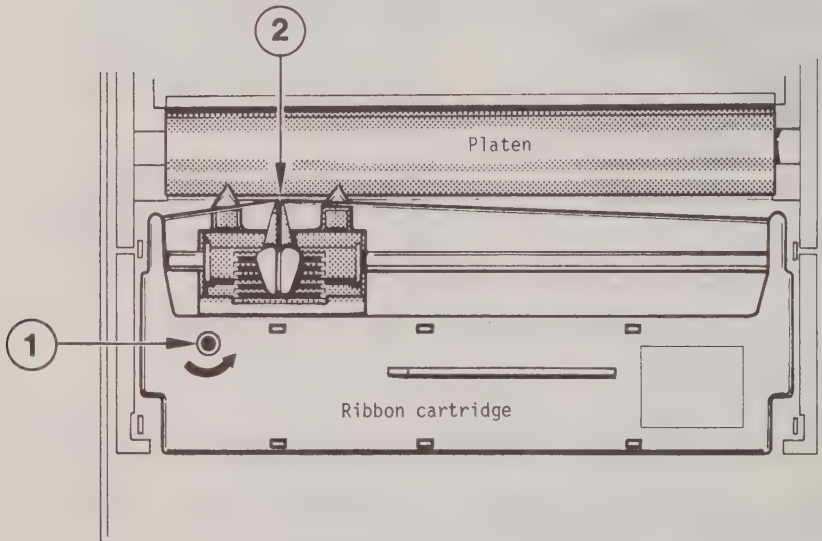

Fig. 5/16 Print head and ribbon cartridge viewed from above
- Push ribbon (2) between needle print head and platen with, for instance, a pencil. Ensure that the ribbon is not located in front of the paper deflectors (see Fig. 5/2).